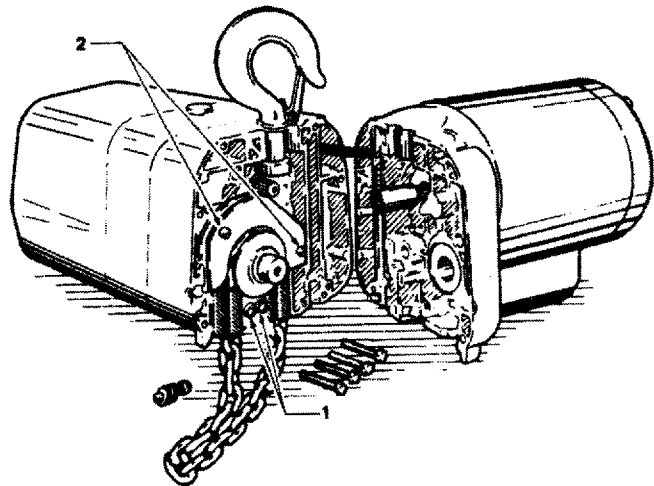

FIGURE 4-4. CHAIN REPLACEMENT
b. With No Chain in Hoist Refer to Figure 4-4 and proceed as follows: